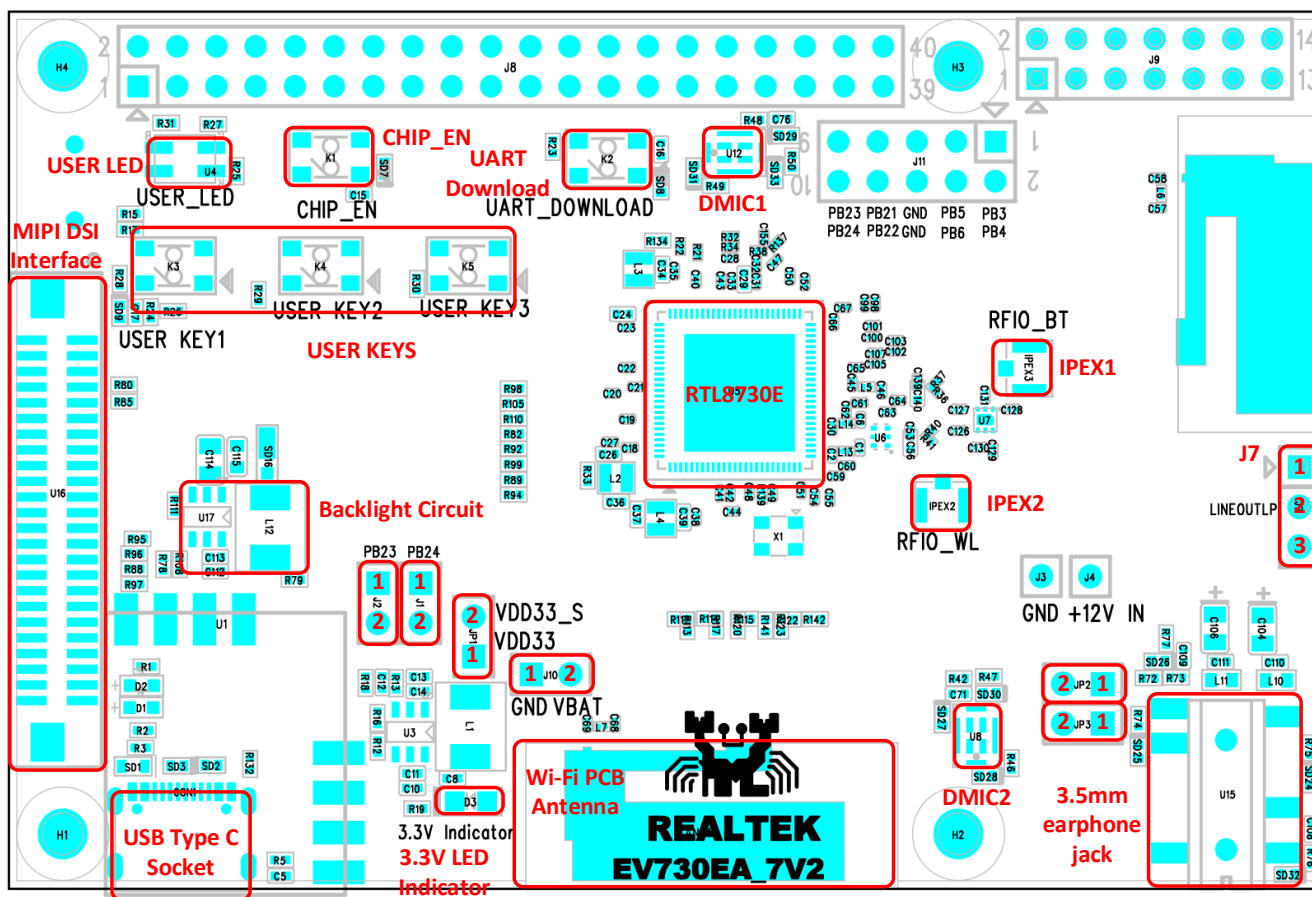
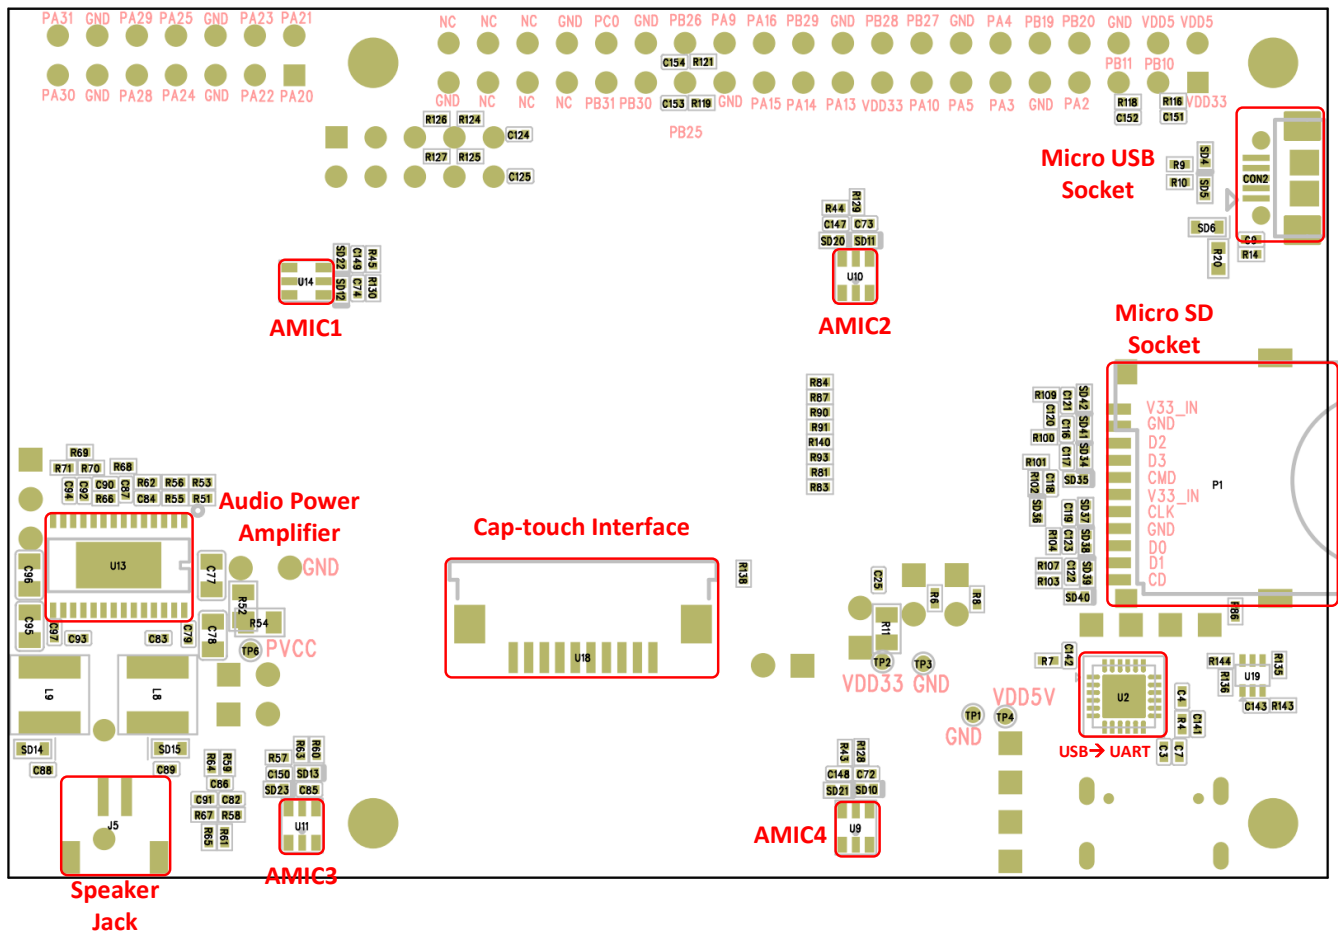

Figure 3-1 EV8730EAH – top layer
Figure 3-2 EV8730EAH – bottom layer
- Find the location of the pin according to Figure 3-1 and Table 3-1.
The top layer of the EVB is illustrated in Figure 3-1.
The bottom layer of the EVB is illustrated in Figure 3-2.
There are two kinds of MIC chips on the EVB, namely analog microphone and digital microphone. Refer to Figure 3-1 for the location on the EVB.
Multiple connectors are provided on the EVB for the expansion of different functions of the chip. The positions of different connectors on the EVB are shown in the Figure 3-1.
Only connectors with numbers and the names described next to them can be configured in the Figure 3-1 and Figure 3-2. Other connectors with no specific purpose are used for internal test or other reserved functions. Please do not configure them arbitrarily to avoid affecting the normal operation of the chip.
The pin multiplexing and description of each jumper is listed in Table 3-1. All designators and pins shown in the following table can be located in Figure 3-1.